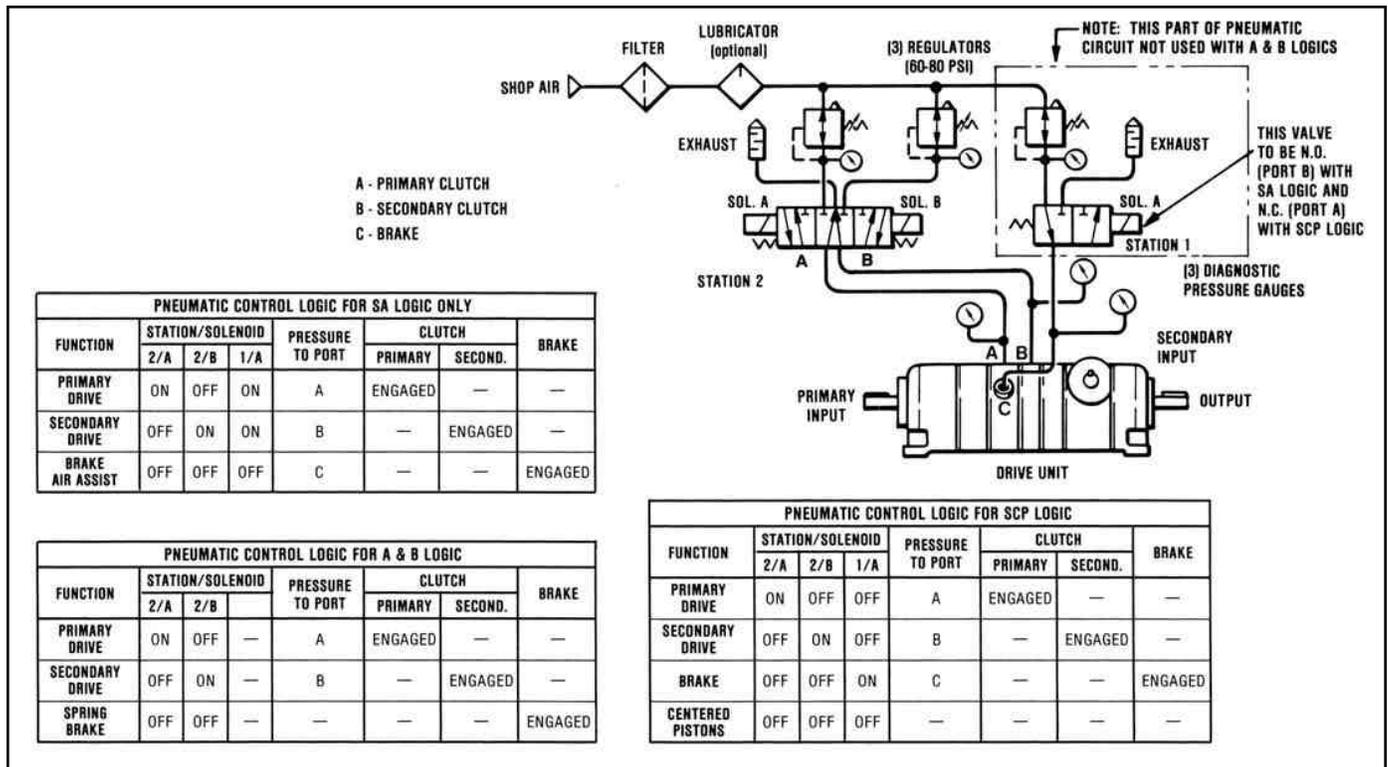

Figure 5.02 - Pneumatic Control Diagram
3. Activate Solenoid Control Valves for desired Function. (See Pneumatic Control Logic Diagram on Figure 5.02)